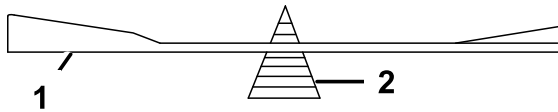

**Figure 117**
- Use a file to sharpen the cutting edge at both ends of the blade (Figure 117).
**Note:** If the blade is not balanced, file some metal off the end of the sail area only (Figure 117).